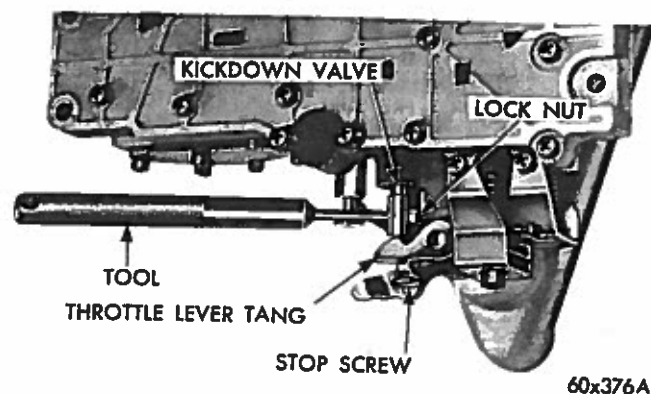

Fig. 23—Throttle Pressure Adjustment (Tool C-3763)
- (2) Loosen throttle lever stop screw lock nut and back off approximately five turns (Fig. 23).
- (3) Insert gauge pin of Tool C-3763 between the throttle lever cam and the kickdown valve.
- (4) By pushing in on the tool, compress the kickdown valve against its spring so the throttle valve is completely bottomed inside the valve body.
- (5) As force is being exerted to compress the spring, tighten throttle lever stop screw finger tight against the throttle lever tang with the throttle lever cam touching the tool and the throttle valve bottomed. Be sure the adjustment is made with the spring fully compressed and the valve bottomed in the valve body.
- (6) Remove the tool and tighten the stop screw lock nut securely.